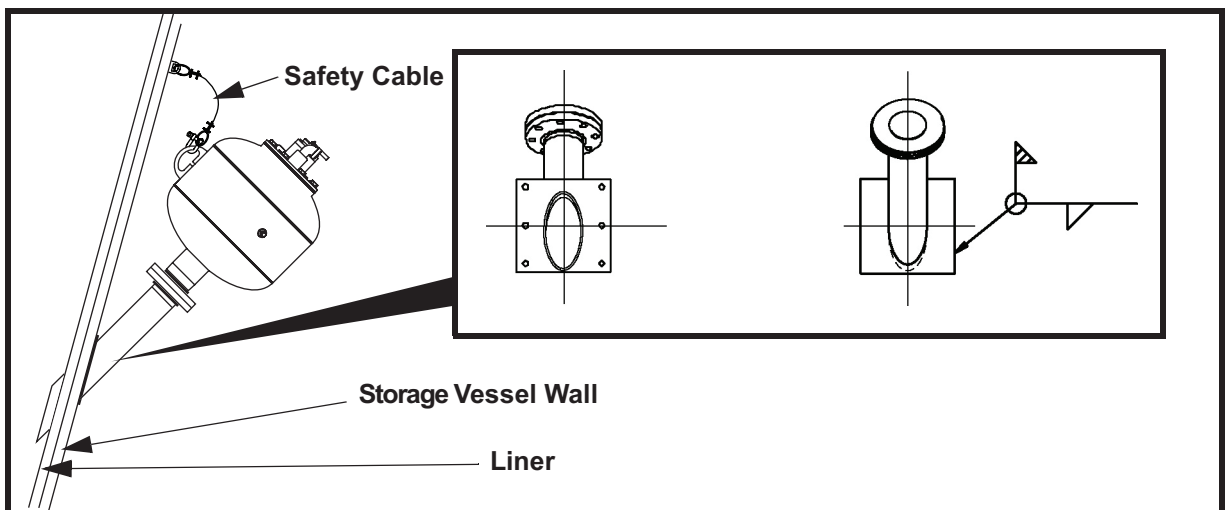

Figure 3. Installing a Drop-Through 30-Degree Mounting Plate for Storage Vessels with Liner
5. If storage vessel has a liner (Figure 3), drop-through blow-pipe must be used. The blow pipe must be extended past liner so that liner is not damaged from air cannon blast.